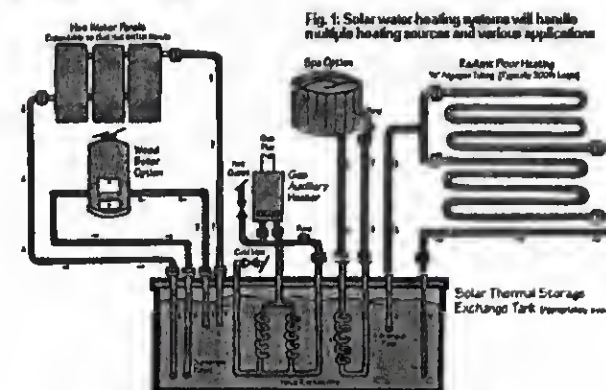

Fig. 1: Solar water heating systems will handle multiple heating sources and various applications
Rob: A wonderfully detailed overview of solar hot water systems, complete with schematics and technical information, is found in the Solar Water and Pool Heating Design and Installation Manual from the Florida Solar Energy Center at (407) 783-8300. Triple A Solar in Albuquerque, NM (800-245-0311) sells used solar-thermal collectors at good rates. Check out local sources of used panels to avoid shipping costs. Six Rivers Solar (816 Broadway, Eureka, CA 95501) at (707) 443-5652 sells a high-quality, rectangular thermal storage tank that integrates the inputs and outputs of collectors, auxiliary heating sources, DHW, radiant floors, and hot tubs (Fig. 1).
The drain-back system (Fig. 1) is relatively simple, versatile, and freeze-proof. The tank used in this type of system is long-lasting and there is little maintenance required. During a blackout (or other loss of electricity to the system), the panels are empty and will not overheat. It's even possible to set up the system so that thermosiphon will get the heat to your water heater. The disadvantages are most evident in off-grid systems, where the energy used in pumping is relatively high. This is because the pump must be sized to fill the collectors daily rather than just circulate water through them. As well, the tank must be located below the panels so that the water